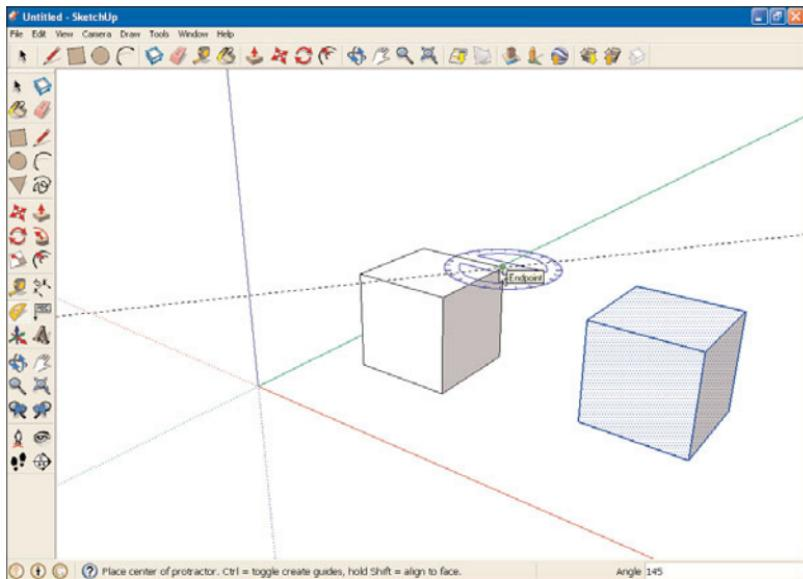

FIGURE 10.15 A protractor on a cube.
10. Click the upper-left corner of the left cube. A protractor appears at the location you've clicked, as shown in Figure 10.15.
An angle guide snaps into position, as you can see in Figure 10.15.